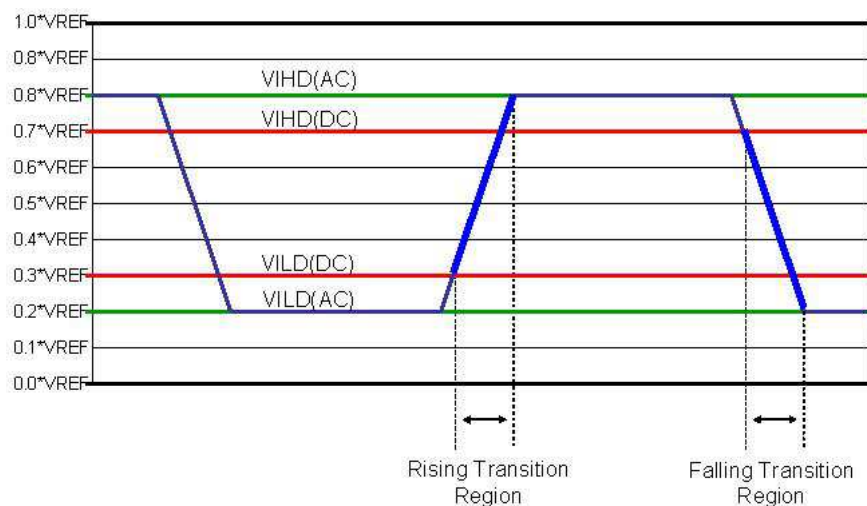

Figure 1. Low Speed (LS) I/O Input Thresholds
(1) VILD(AC) min applies to undershoot.
(2) VIHD(AC) max applies to overshoot.
(3) Signal group 1 output slew rate for rising edge is measured between VILD(DC) to VIHD(AC).
(4) Signal group 1 output slew rate for falling edge is measured between VIHD(DC) to VILD(AC).
(5) Signal group 1: See Figure 1.
(6) Signal groups 2 and 3 output slew rate for rising edge is measured between VILD(AC) to VIHD(AC).